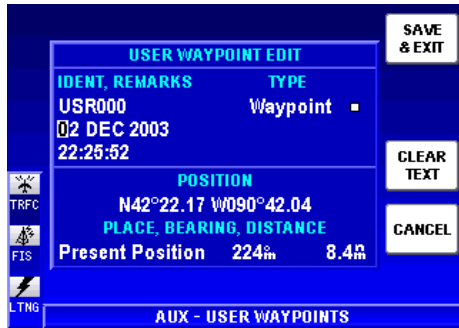

Figure 1-72
6. Turn the Rotary Knob one increment to highlight the first character on the line as in Figure 1-72.